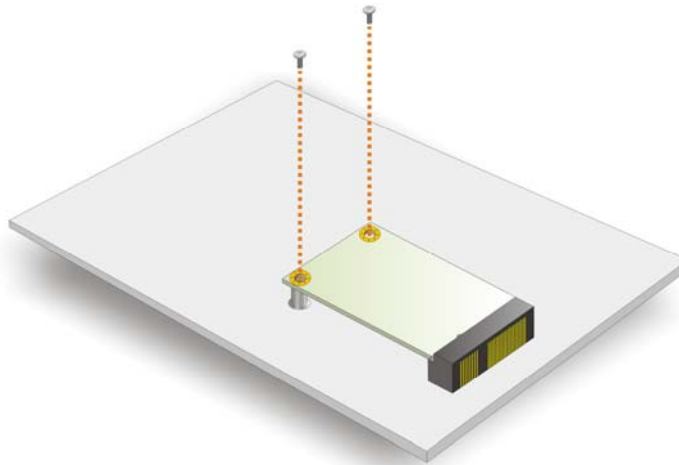

Figure 4-18: Secure the PCIe Mini Card
Step 4: Secure the PCIe Mini card. Secure the PCIe Mini card with the retention screws previously removed (**Figure 4-18**).